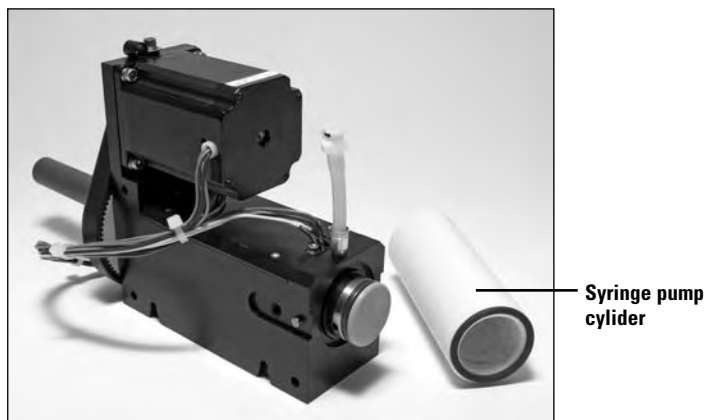

Figure 2-4
The reagent pump is a syringe pump. Refer to figure 2-4 and 2-8 (items 4 and 10). The syringe has a volume of 70 ml. The flow rate can be programmed from 0.05 ml/min to 1.5 ml/min. Once programmed, the syringe pump delivers at a constant speed. Since there is no need for constant refilling and dispensing (as with a reciprocating pump), there is a very high flow precision that does not require external pulse dampening features.